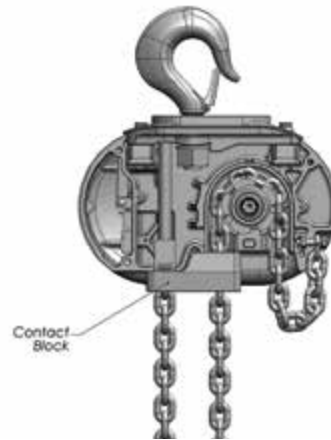

Figure 9. Contact Block Used on Model R
2. On Models E and H insert the last link of the load chain into the dead end block (1) and secure it with the dead end pin, washer and cotter pin furnished with the suspension. Ensure there are no twists in the chain.
3. On Model R, slide the contact block up the chain until it is against the bottom of the hoist and the dead end block is projecting through the square opening in the bottom of the block. Insert the last link of the load chain, making sure there are no twists between the hook block and the dead end block, into the dead end block. Push the contact block up slightly and secure the load chain to the dead end block using the dead end pin, washer and cotter pin furnished with the suspension. The dead end pin also supports the contact block (See Figure 9)